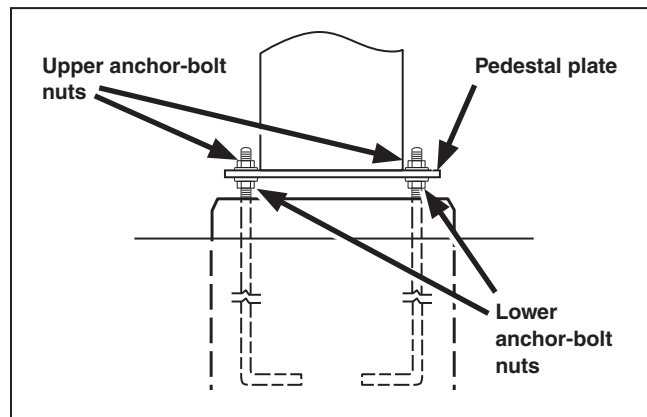

Figure 8. Hand-tighten the lower nuts and securely tighten the upper set of anchor-bolt nuts at each mounting pedestal.
Check the lower set of anchor-bolt nuts at each mounting pedestal to verify each is in contact with the bottom of the plate. Hand-tighten these anchor-bolt nuts as needed. See Figure 8.
STEP 7. Securely tighten the upper set of anchor-bolt nuts. See Figure 8.